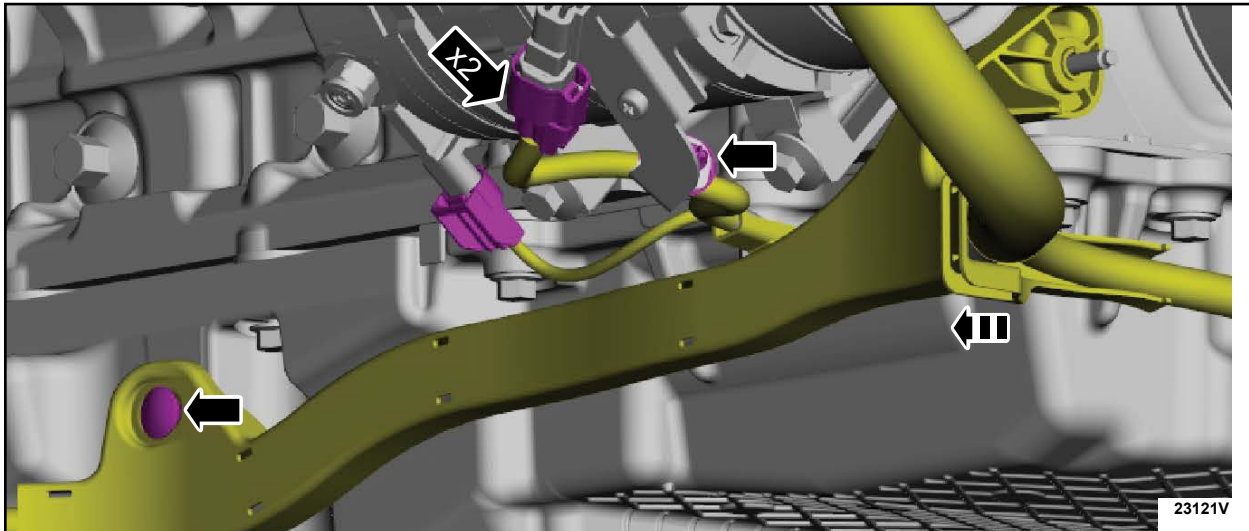

FIGURE 27
42. Position the wiring harness, install the retainer, attach the wiring harness retainer, connect the A/C compressor electrical connectors. See Figure 27.